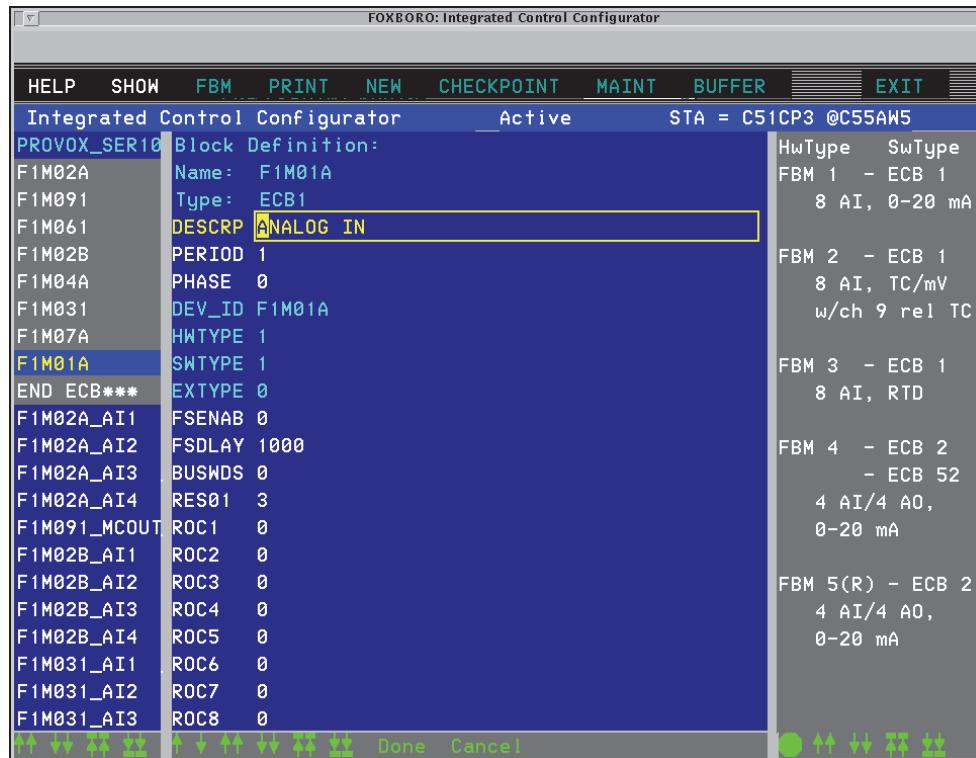
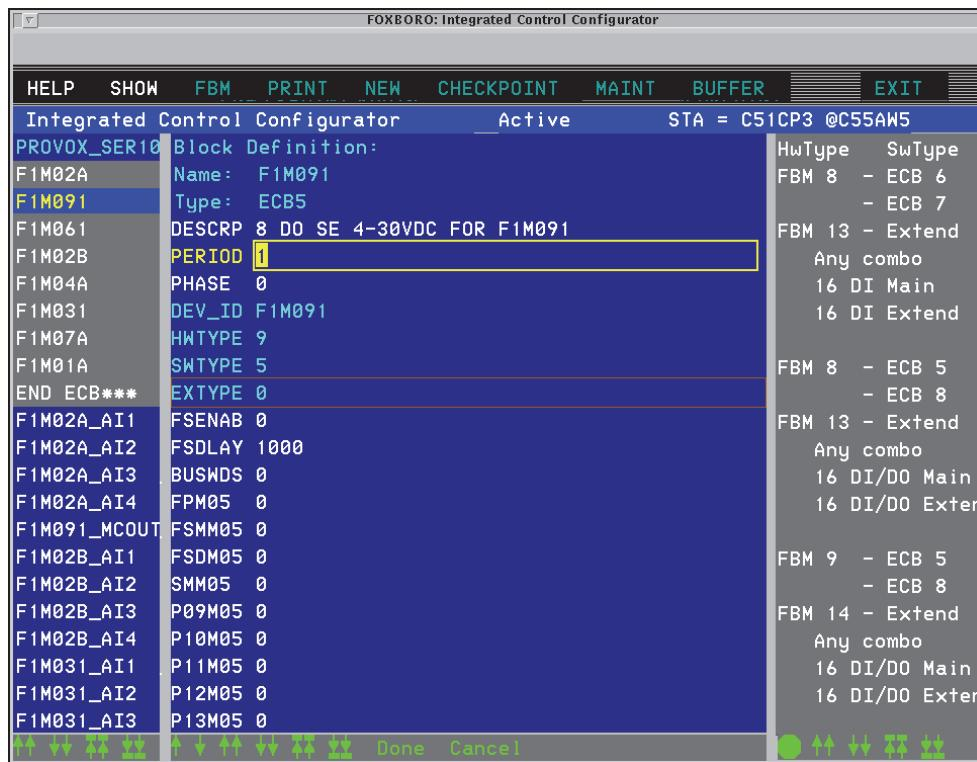

Figure 3-2. Typical Editing Display for F1M01A (Analog Input, ECB01)
Figure 3-5. Typical Editing Display for F1M09 (Digital Output, ECB05)
4. If required, edit the F1Mxx ECB(s) if the default parameters provided are not satisfactory. (See NOTE immediately following this step.) As examples, Figure 3-2 through Figure 3-5 show typical editing displays for the F1M01A, F1M04A, F1M07, and F1M09 ECBs. The HWTYPE and SWTYPE ECB parameters for the various types of DCS Fieldbus Modules are shown in Appendix D “DCS Fieldbus Module Control Schemes”. For information on other ECB parameters, refer to *Integrated Control Block Descriptions* (B0193AX).
For ready reference, ECB parameter information appears in a “show window” along the right side of the ECB editing displays (see Figure 3-2 through Figure 3-5). The show window is accessed by selecting **Show** in the menu bar, and then selecting **Legal FBM/ECB Combos.**
4. Access the editing display for the newly created F1Mxx ECBS (see Figure 3-2 through Figure 3-5 for examples) and set the parameters. The HWTYPE and SWTYPE ECB parameters for the various types of DCS Fieldbus Modules are shown in Appendix D “DCS Fieldbus Module Control Schemes”. For information on other ECB parameters, refer to *Integrated Control Block Descriptions* (B0193AX).
For ready reference, ECB parameter information appears in a “show window” along the right side of the ECB editing displays (see Figure 3-2 through Figure 3-5). The show window is accessed by selecting **Show** in the menu bar, and then selecting **Legal FBM/ECB Combos**.